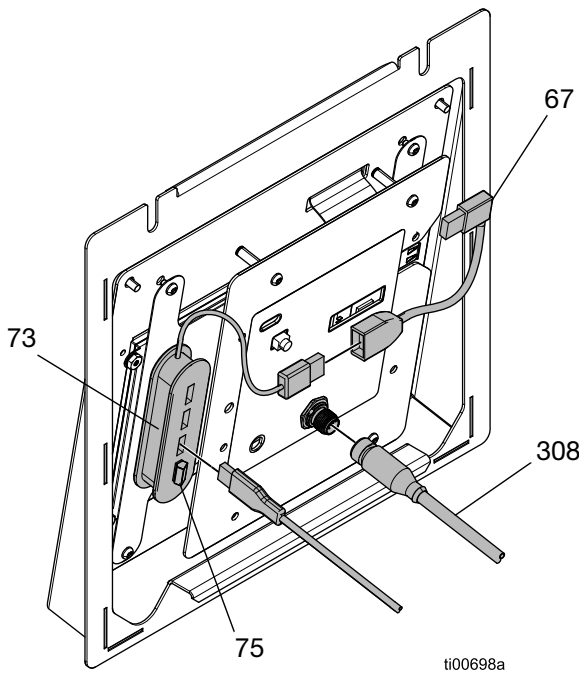

FIG. 118: 4 Channel ADM Connections
1. Turn the main power switch (204) OFF and disconnect power from the system.
3. Attach the 4 port USB hub (73) to the back of the ADM in the location shown in FIG. 118, using the included double-sided tape.
4. Connect the right angle USB connector (67) to the USB hub cord (73).
5. Plug the 4 channel upgrade flash drive (75) into the USB hub (73).
6. Plug the USB bulkhead cable into the USB hub (73).
8. Reconnect power to the system and turn the main power switch (204) ON.